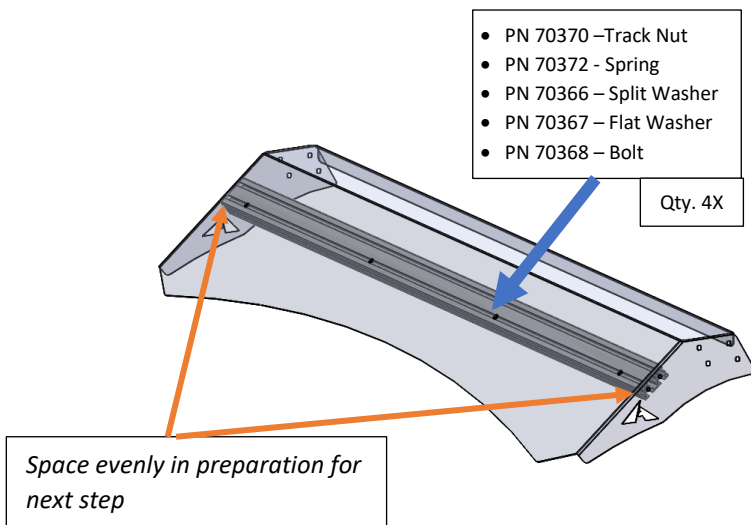

Figure 11: Crossbar Install onto Air Dam
- Slide track nuts into position to match the air dam. Use the air dam as a template for spacing, and bolt the air dam to the crossbar. Reference Figure 11.